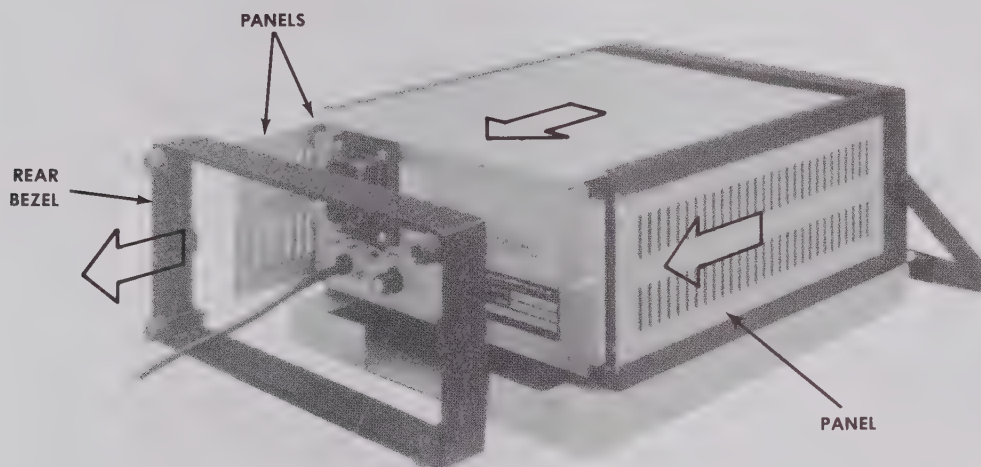

Figure 2-1 Removing the 1125 Rear Bezel and Panels
1. Rear Bezel. Take off the rear bezel by first removing the two nuts holding it to the chassis rear panel and then sliding it off the chassis and past the AC power cable (Figure 2-1).
2. Top and Side Panels. Slide out (and to the rear) the top panel and the two side panels of the chassis (Figure 2-1).
12. Side and Top Panels. Slide the top and side panels back into their slots in the frame (Figure 2-1).
13. Rear Bezel. Slide the rear bezel back over the AC power cable and on the frame and fasten it to the frame with a nut over each of the two protruding fixed bolts (Figure 2-1).